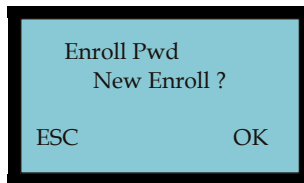

Figure 2-21 New Enroll Pwd Screen
4. Press **OK** and Enroll Pwd New Enroll? will appear (see **Figure 2-21**).